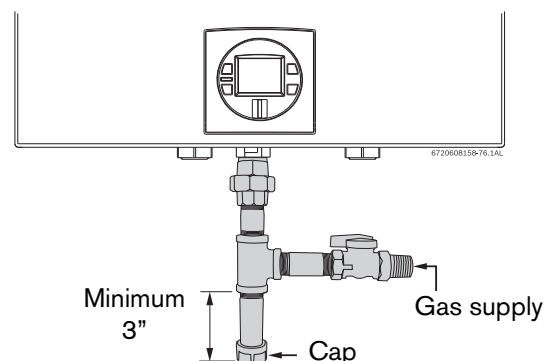

Fig. 33 Gas connection (drip leg)
- ▶ National Fuel Gas Code requires that a sediment trap (drip leg) be installed on gas appliances not so equipped. The drip leg must be accessible and not subject to freezing conditions. Install in accordance with the recommendations of the serving gas supplier, see Fig. 33.